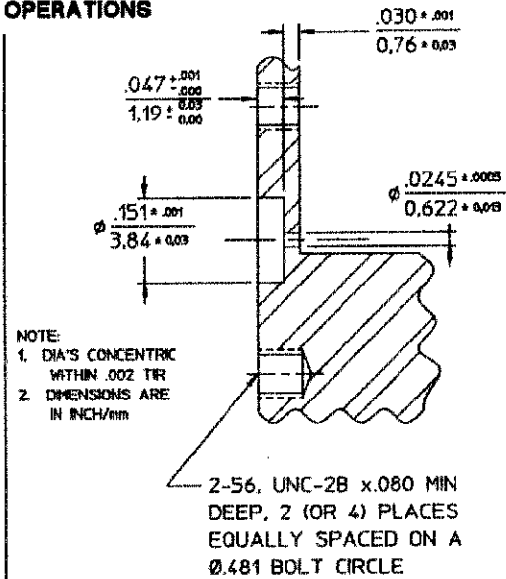

FIGURE 1
- 1.1 Using the step reamer drill, (P/N 2598-5173-02) ream mounting hole to depth as shown in figure 1.
- 1.3 Tap two (or four) 2-56 UNC-2B holes, 180° (or 90°) apart on a .481 bolt circle, .080 deep minimum full thread as shown in Figure 1.